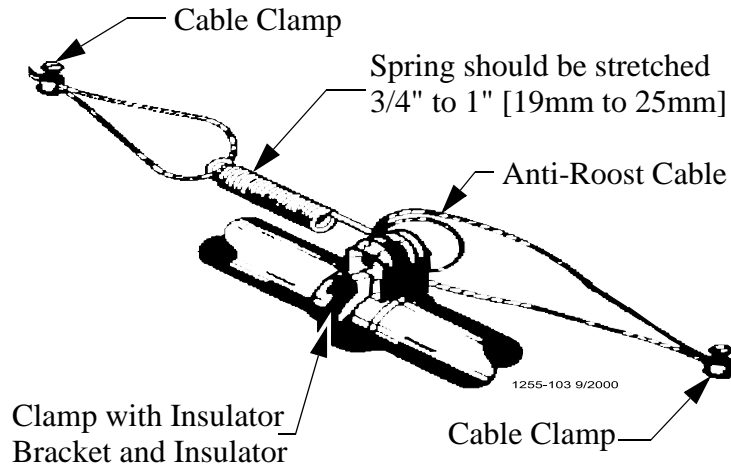

Figure 58. Anti-Roost Mid-line Connection
4. Attach a spring in the center groove at the second anti-roost bracket and cut the cable at this point, see **Figure 58**.
5. Thread the ends of the cable through the end of the spring. Pull the cable tight so there is 3/4 to 1" [20 to 25 mm] of stretch in the spring. Clamp the cable to form a loop and cut off any excess, see **Figure 58**.
6. Attach the cable to the insulator. For best results, make a double loop around the anti-roost insulator in the center groove of the insulator and fasten with a 1/16" cable clamp, see **Figure 58**.